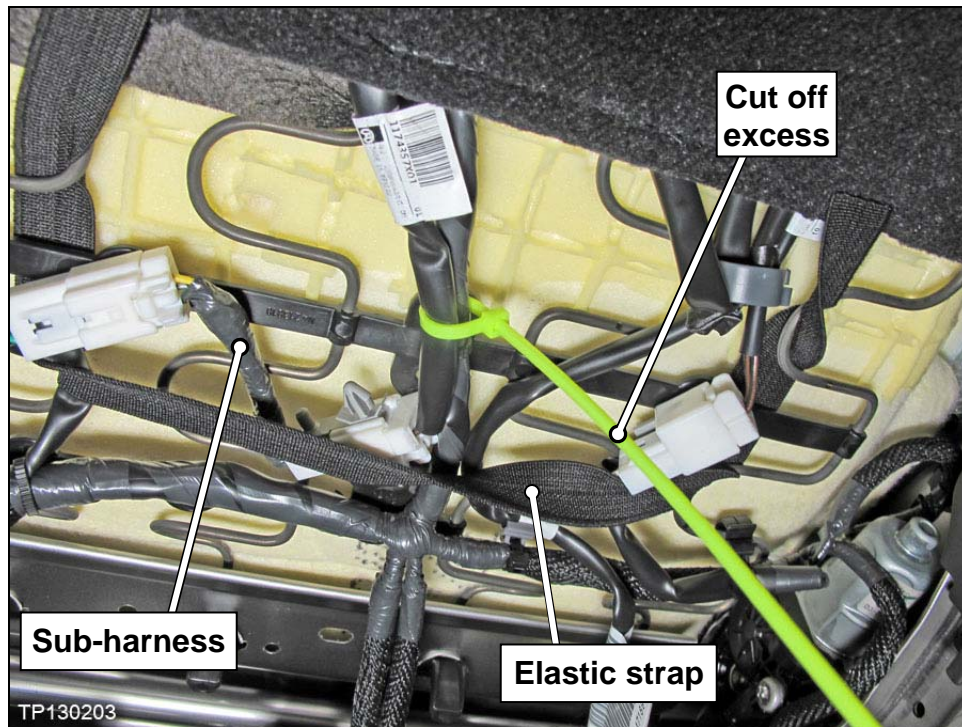

Figure 7
6. Re-secure the seat harness(es) with a tie strap where noted in Figure 7.